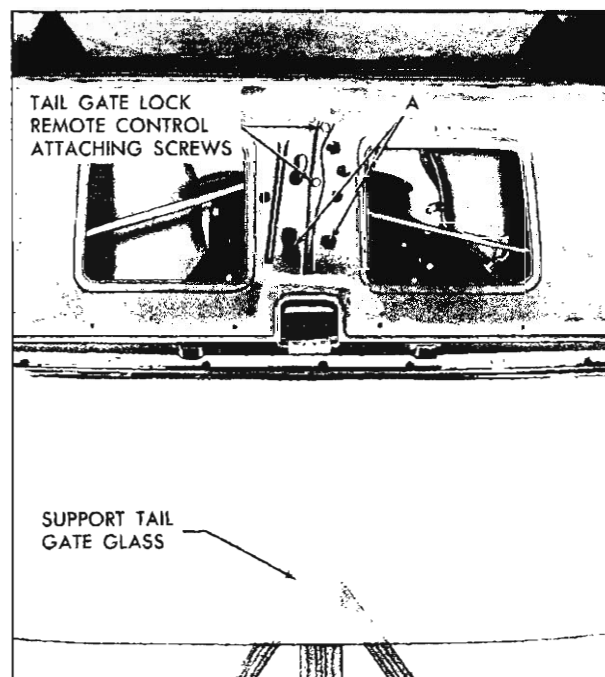

Fig. 87—Outside Handle and Lock Remote Control
2. Detach tail gate inner panel water deflector sufficiently to gain access to holes "A" for removal of handle attaching nuts (fig. 87).
CAUTION: Support portion of glass extending out of tail gate (fig. 87).
- Detach tail gate inner panel water deflector sufficiently to gain access to holes "A" for removal of attaching nuts (fig. 87).
2. Loosen tail gate lock remote control attaching screws (fig. 87) and move remote control towards bottom of tail gate sufficiently to disengage end of handle push rod from hole in remote control lever.